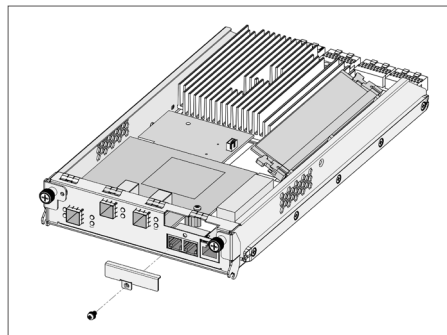

Figure C-5, Loosening the Screw
1. Loosen the screw and remove the dummy cover from the rear side of RAID controller caddy, as shown in Figure C-5.